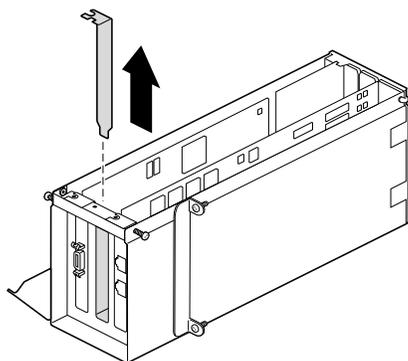

Figure 4-15 Removing the Blank I/O Panel
2. Remove the blank I/O panel by pulling it up, as shown in Figure 4-15.